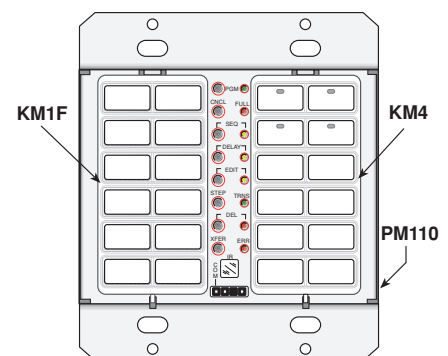

Fig. 1 Two Gang Configuration
3. Now, since this is a 2-gang configuration, we need a **PM110** Base Module into which we plug the **KM1F** and the **KM4**. **Fig. 1** shows the basic configuration.